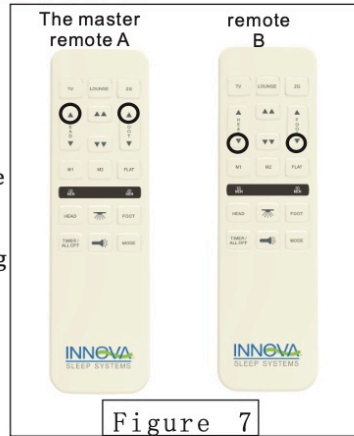

Figure 7
Press the **D** and **T** buttons of a new remote (B) (the one that has not sync with the beds), until the flash light flashing, then release the two buttons. The flash light will be on for 10 seconds. Meanwhile press **▲** and **▲** buttons of the master Remote (A), the copying process is successful when the flash light (B) starts to flash. Now both remote control will be able to control both beds to the same position. (See figure 7)